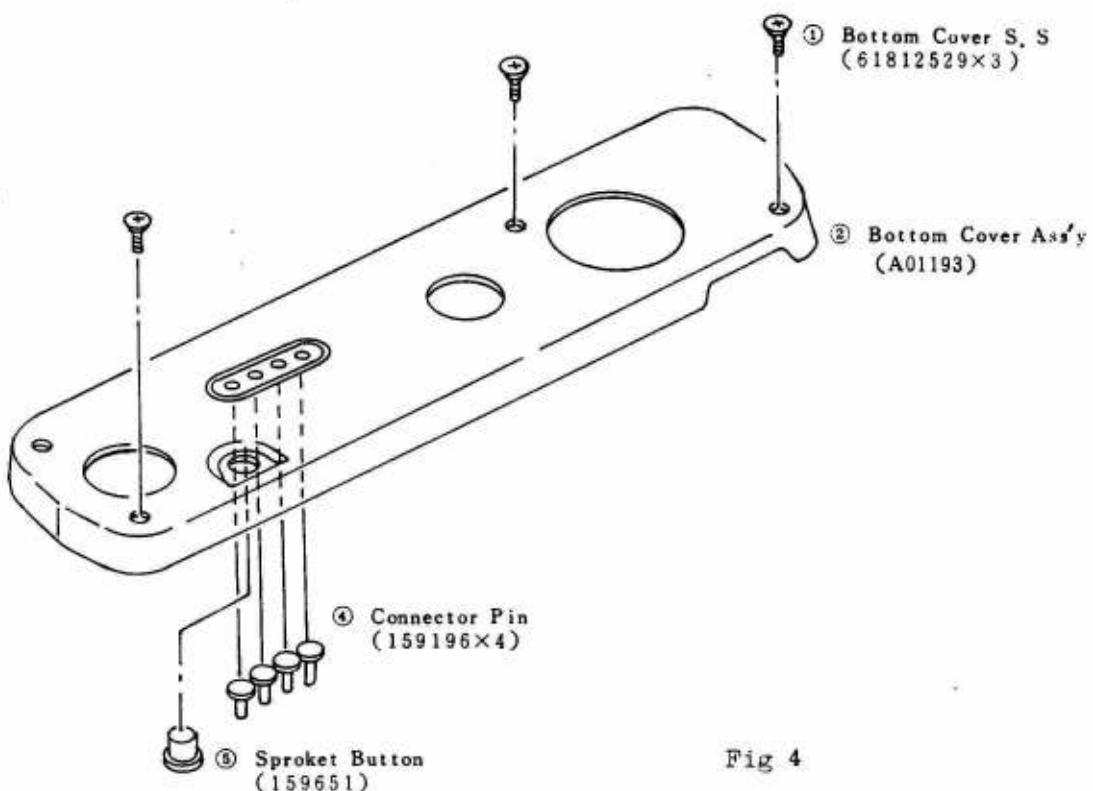

Fig 4
(2) Bottom Cover;
Remove the respective ① ~ ⑤ shown in (Fig 4) in numerical order.